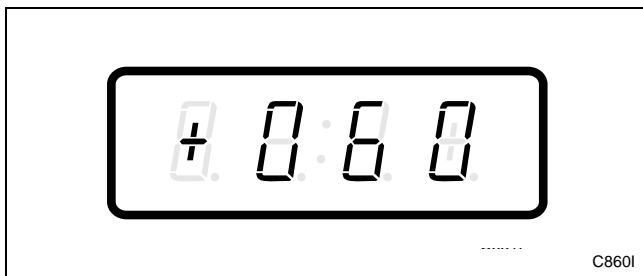

Figure 76
3. Press the DELICATES (+) or the COLD (-) keypad to scroll through the programmable options until “+060” appears in the VFD. Refer to *Figure 76*.